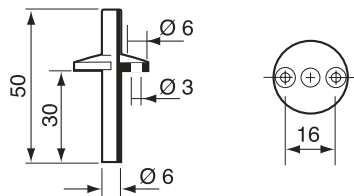

Fig. 3
- 2 connettori in PVC (vedi Fig.3)
- 2 PVC connectors (see Fig.3)